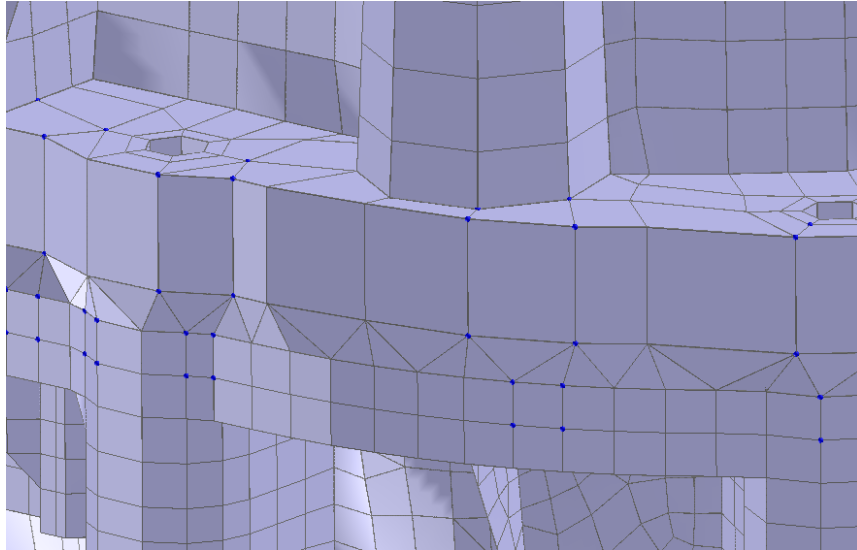

Figure 5.47 Complete Stitched Seam.
- To accept the stitch click on: **Stitch Seams** → **Stitch Seams**. See Figure 5.47.